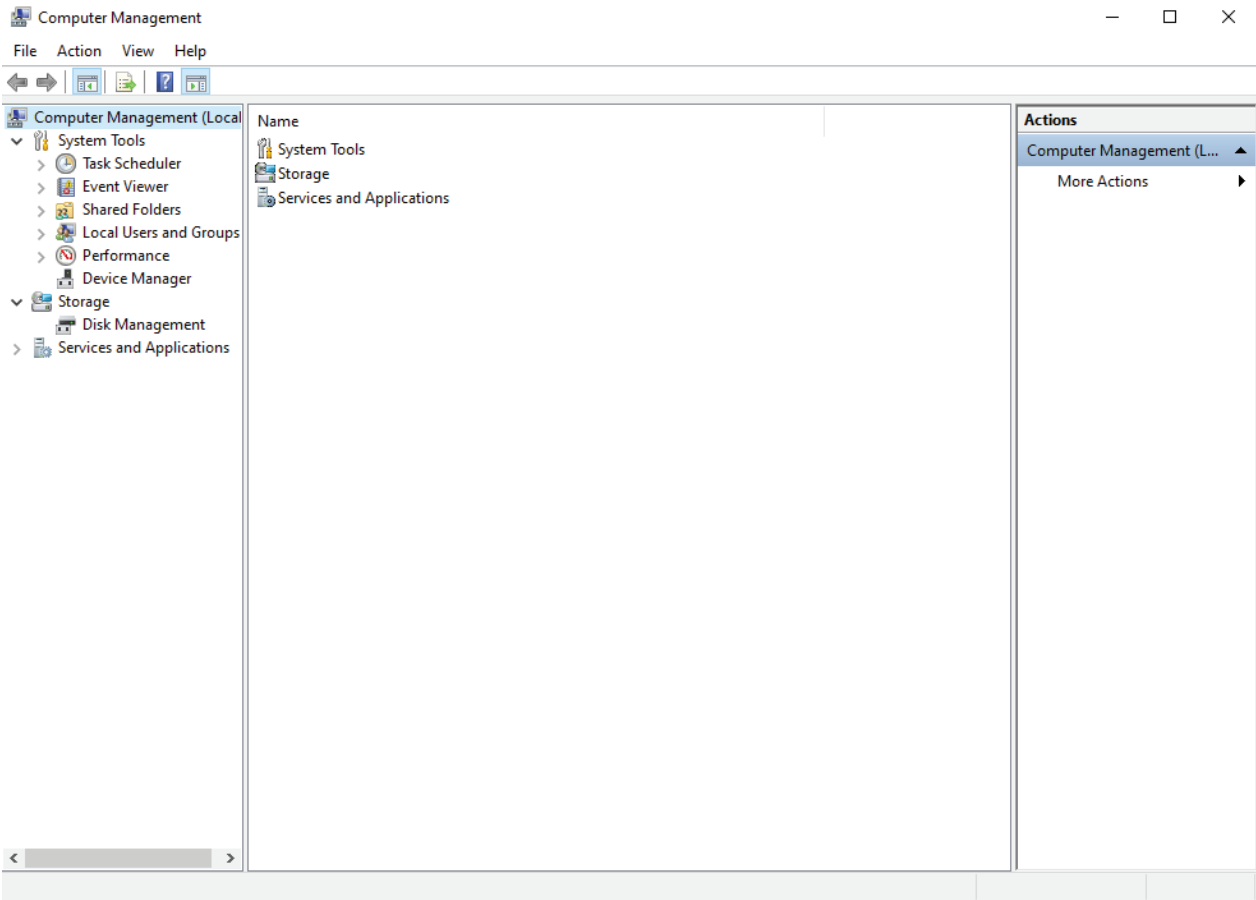

Figure 4
4. You will then proceed to **"Computer Management"** (figure 4).